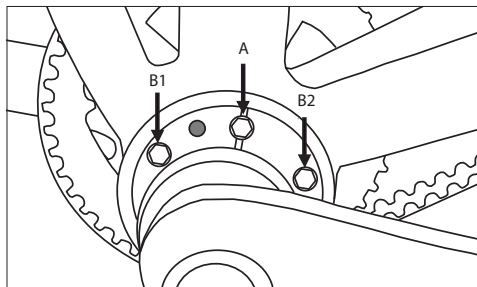

Fig. 58: Eccentric bottom bracket lock bolts
1. Turn the three bolts A, B1 and B2 on the non-drive side of the eccentric bottom bracket counter-clockwise with a hex wrench to loosen. (Fig. 58)